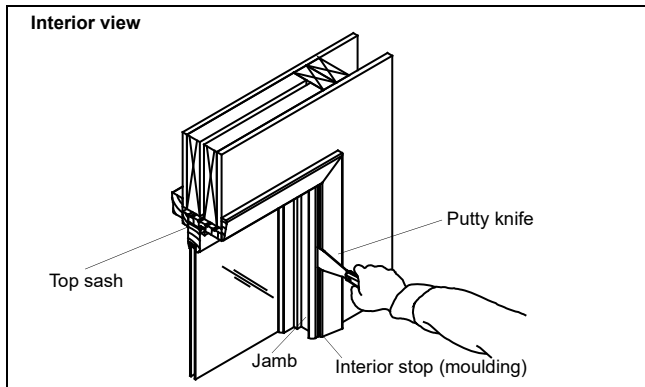

Figure 4
1. Remove all interior stops with a pry bar or stiff putty knife. See figure 4.